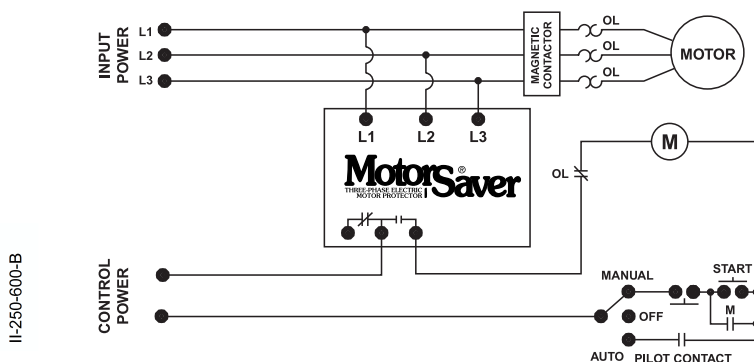

Figure No.1: Typical Motor Control Wiring Diagram
3. Connect the output relay to the circuitry to be controlled (see Figure No. 1 and Figure No. 2).